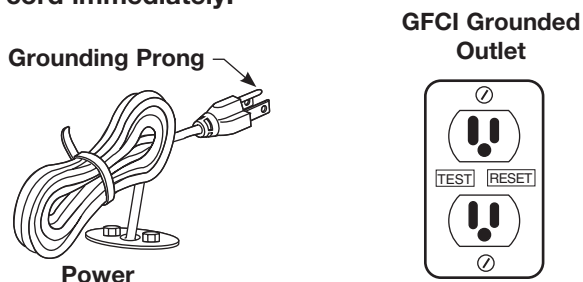

Figure 1
- This pump must be plugged into a properly installed, and grounded GFCI outlet in accordance with all applicable codes and ordinances. (Figure 1) Never remove the grounding prong or modify the plug in any way. Do not use any adapter plugs. Check with a qualified electrician if you are not sure the outlet is grounded. If the pump should electrically malfunction or break down, grounding provides a low resistance path to carry electricity away from the user.